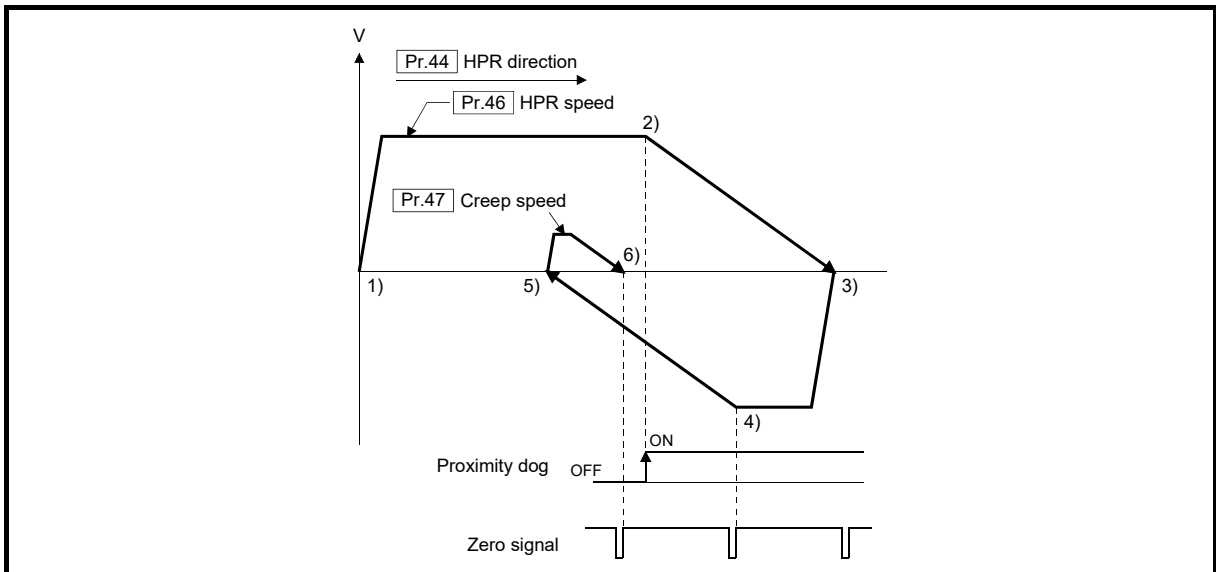

Fig. 8.12 Operation when the zero signal is detected again during deceleration with detection of zero signal
- (3) When the stop signal stops the machine HPR, carry out the machine HPR again. When restart command is turned ON after the stop signal stops the HPR, the error "HPR restart not possible" (error code: 209) will occur.
- (4) The HPR retry will not be performed regardless of setting set in "[Pr.48] HPR retry" in the scale origin signal detection method. When a hardware limit switch is detected during machine HPR, the error "Hardware stroke limit (+)" (error code: 104) or "Hardware stroke limit (-)" (error code: 105) will occur.
- (5) Position the proximity dog forward to overlaps with the hardware limit switch in direction of HPR. When the proximity dog is in the opposite direction against of HPR from the machine HPR start position, the error "Hardware stroke limit (+)" (error code: 104) or "Hardware stroke limit (-)" (error code: 105) will occur.
- (6) When the zero signal is detected again during deceleration (4) of Fig. 8.12) with detection of zero signal, the operation stops at the zero signal detected lastly to complete the HPR.